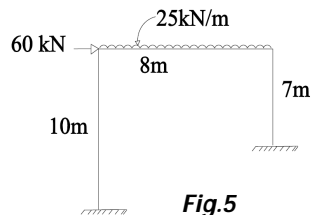

Fig.5
3. Find the moments at the critical sections of the frame shown in Fig.5 by moment distribution method.  $EI$  is same for all members.